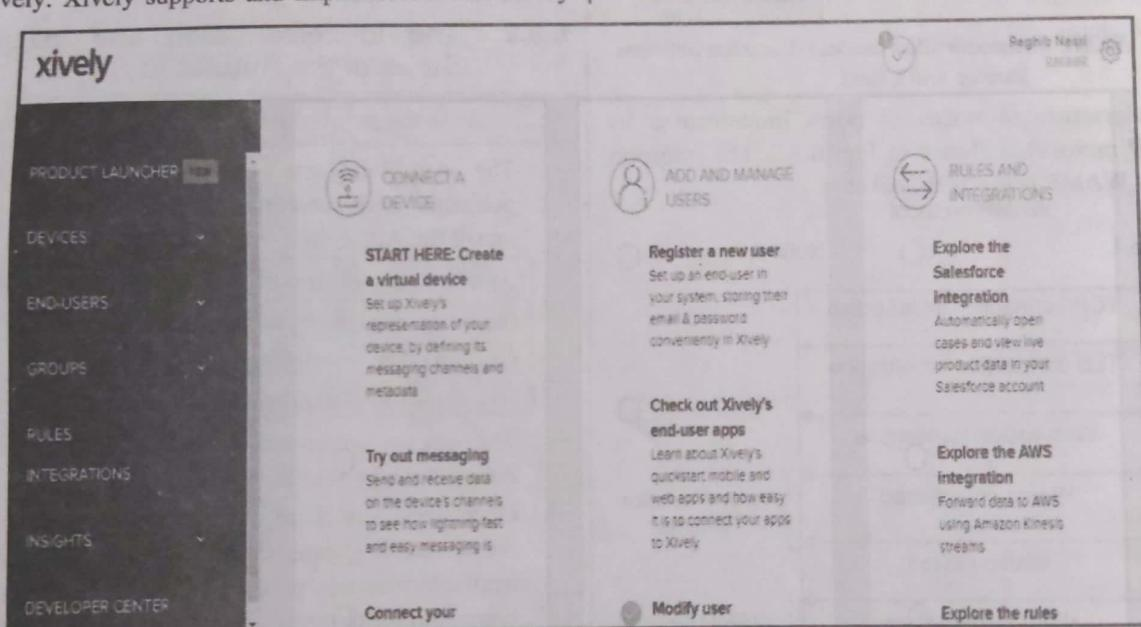

Fig. 6.4.1 : Xively Welcome screen
- Xively web interface allows programmers and developers to register in it for developers account. After creation of developers account, different development devices can be created. The snapshot of the Xively welcome screen for developers is shown in Fig. 6.4.1.